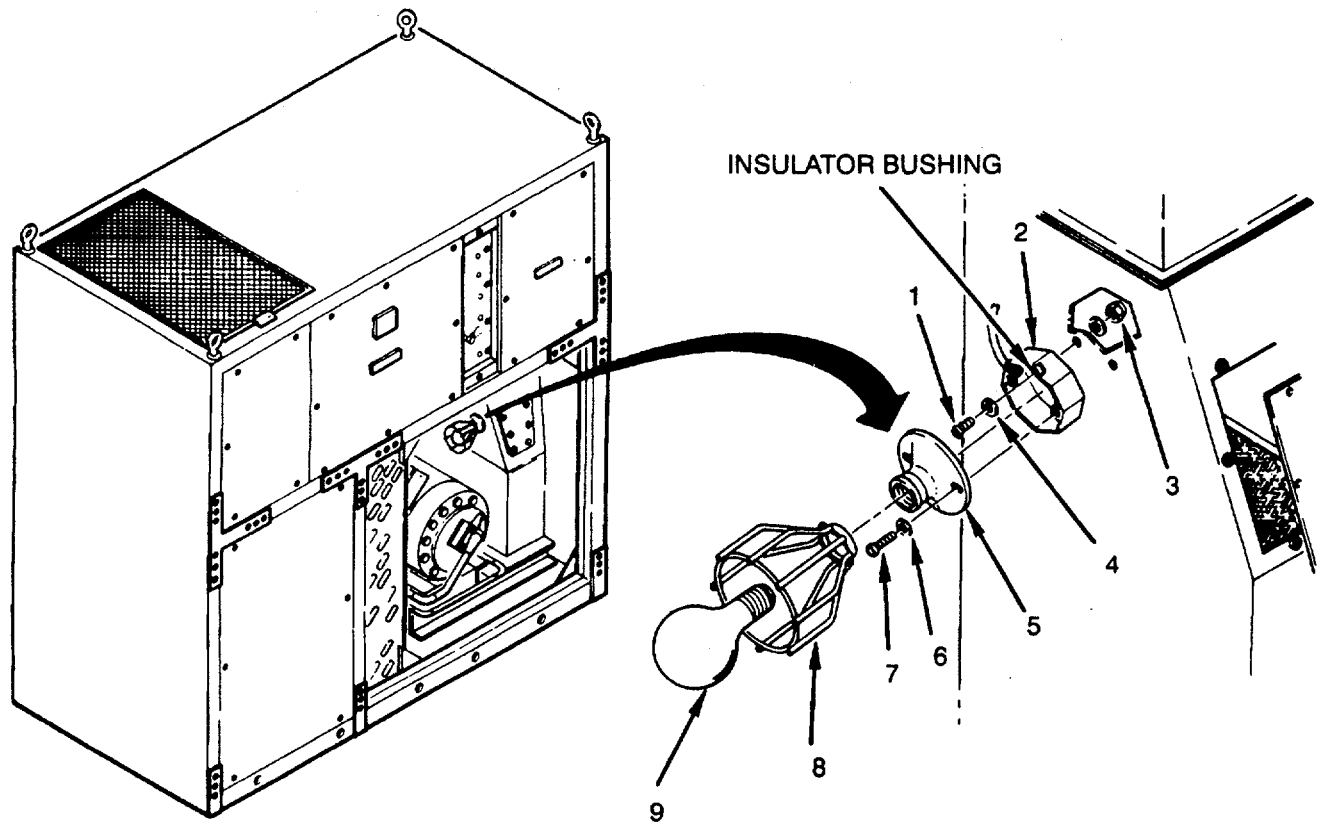

Figure 4-68. Service Light (DS8)
1. Check lamp guard (8) for bent or broken prongs (see Figure 4-68).
3. Check light bulb (9) for signs of burnout, cracks, or breaks. Replace light bulb, if defective.